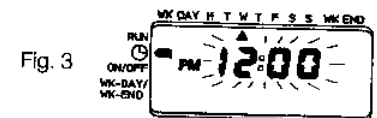

Fig. 3
- Press the ENTER button. The TIME OF DAY will now flash (see figure 3).